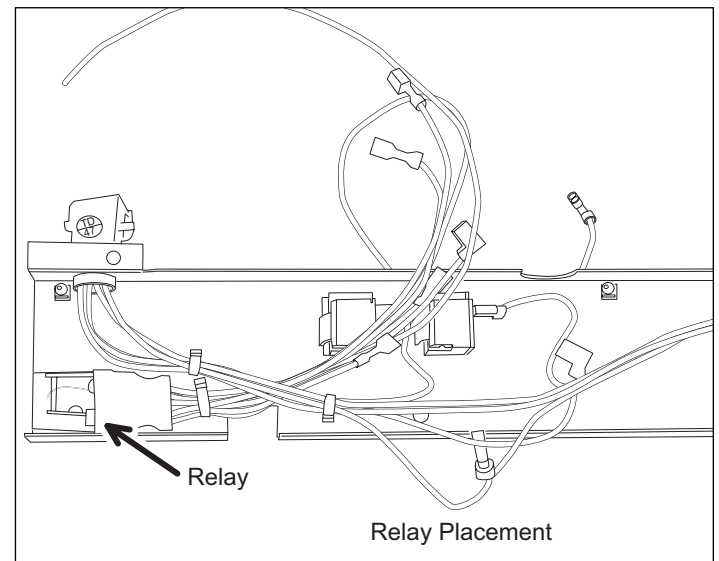

Figure 4
4. Locate relay harness and remove backing from double-sided tape on relay. Place relay in corner of switch box as seen in figure 4.